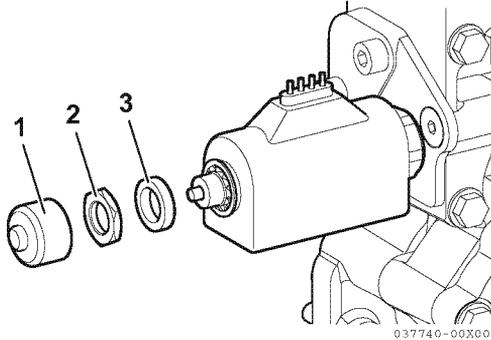

Figure 11
1. With the engine(s) off, remove cap (1, **Figure 11**), nut (2, **Figure 11**) and collar (3, **Figure 11**).